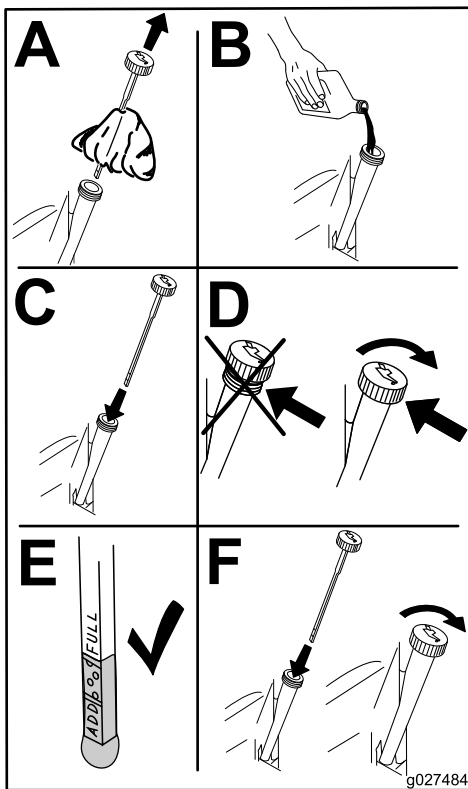

Figure 31
4. Slowly pour approximately 80% of the specified amount of oil into the fill hole (Figure 31).